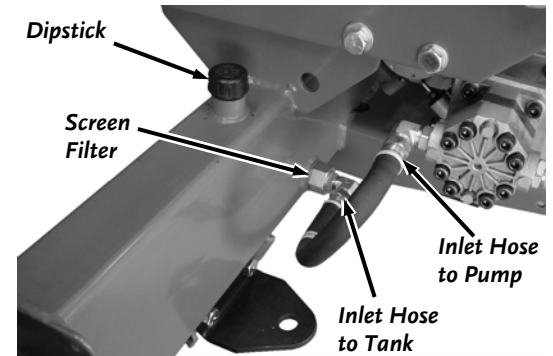

Figure 28
- Disconnect the Inlet Hose at the Pump Elbow using an Adjustable Wrench and lower the Hose to drain the Fluid into the Container (**Figure 28**).
- Remove the Hydraulic Fluid Dipstick from the Hydraulic Tank (**Figure 28**).